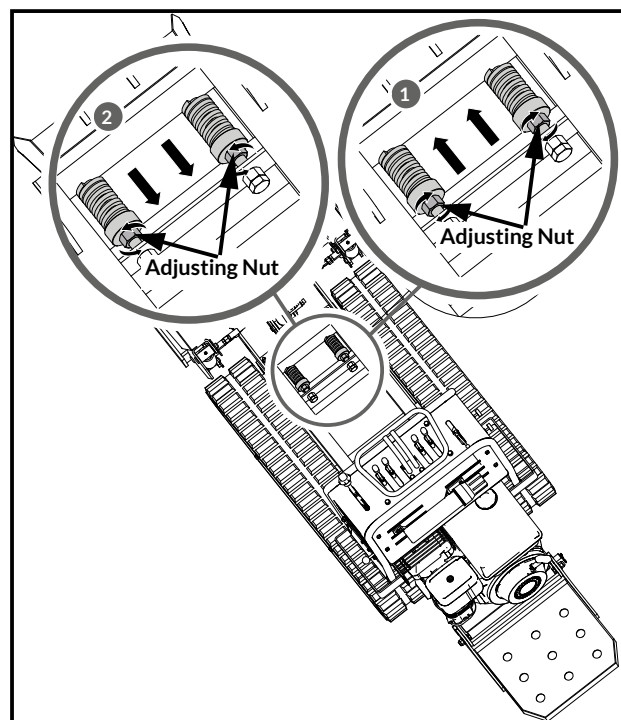

Figure 19
2. When the reading is too big, screw the adjusting nut counterclockwise as shown in figure 19 (1) until the tension of the track reaches the appropriate range.
3. When the reading is too small, screw the adjusting nut clockwise as shown in figure 19 (2) until the tension of the track reaches the appropriate range.